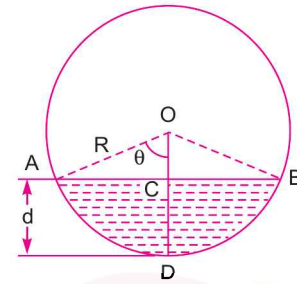

Fig. 16.24
**1. Condition for Maximum Velocity for Circular Section.** Fig. 16.24 shows a circular channel through which water is flowing.
The depth of flow for maximum velocity from Fig. 16.24, is
Depth of flow for maximum discharge [See Fig. 16.24]